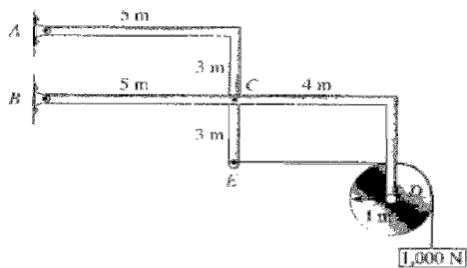

Figure 1
1. Find the supporting forces at A and B (Fig. 1). At D there is a cylinder weighing 300 N .